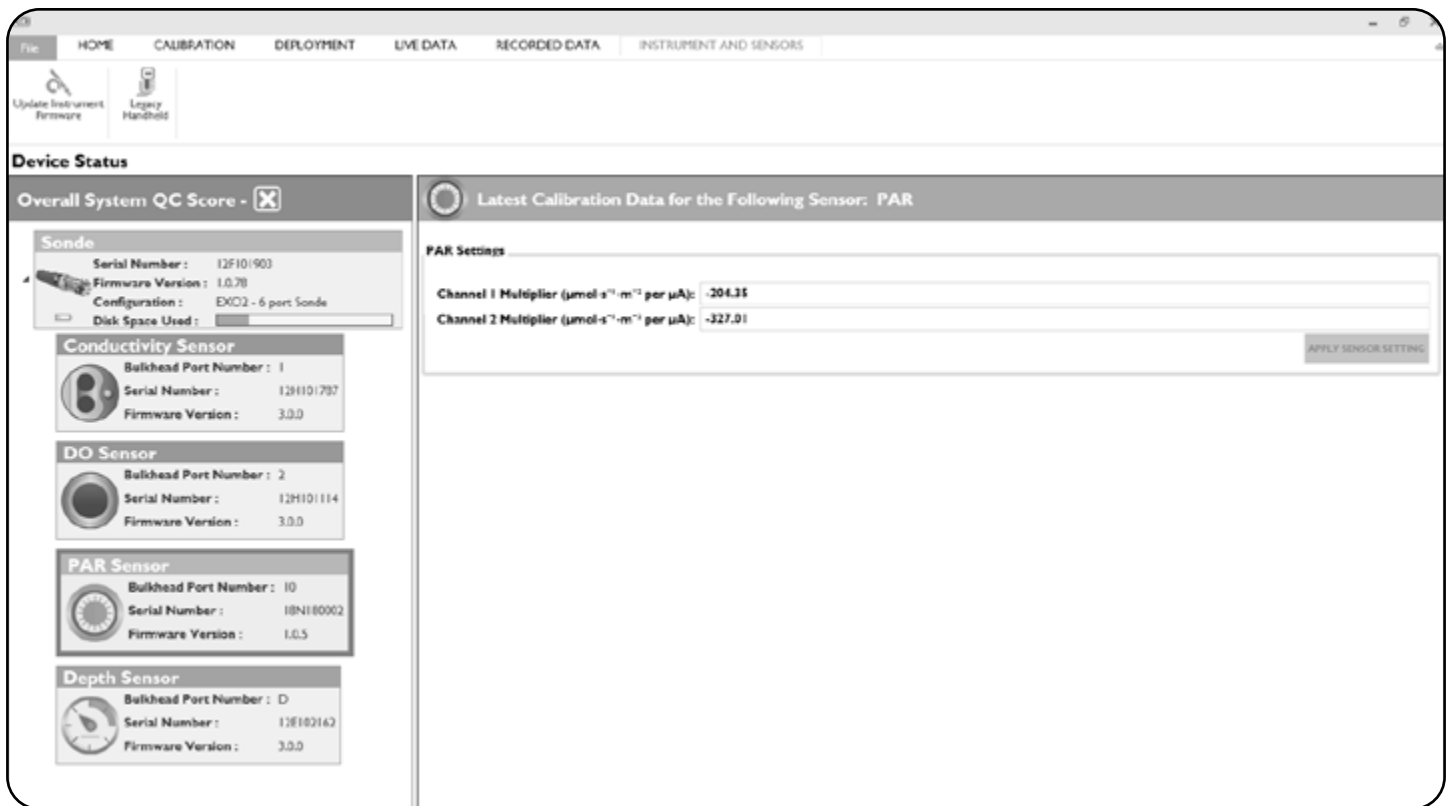

Figure 11 Enter the multipliers into YSI's Kor software.
2. Using the Calibration Certificate supplied with your Li-Cor PAR sensor, you will now enter the multipliers into YSI's Kor software. To do so first select **Instruments and Sensors** and from the list of sensors displayed select **PAR** sensor. If successful you will see the screen shown in figure 11. From the Calibration Certificate you will use the **In-Water** multiplier that is listed under the **Handheld Meters and Loggers section**. You will enter the multipliers exactly as they are on the certificates in the fields shown for **Channel 1** and **Channel 2**. If you are only using one PAR sensor, the default channel will be **Channel 1**. Leave the default value in **Channel 2**, which will be (1).